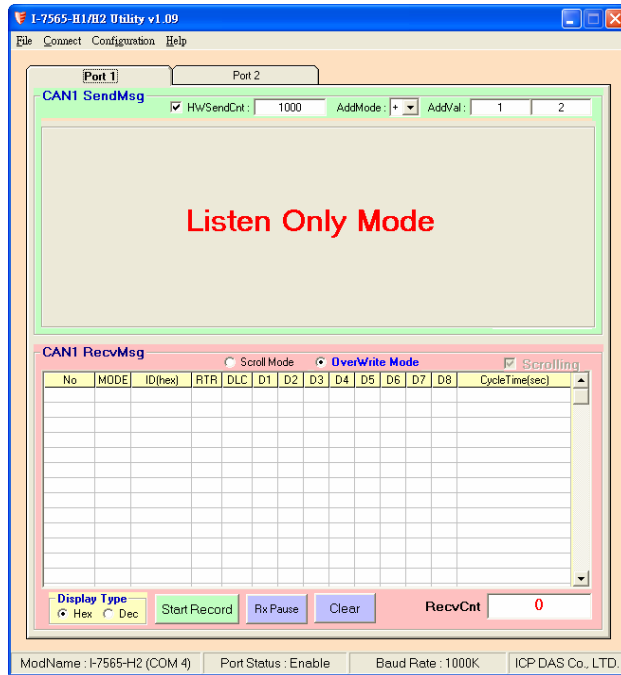

Figure 4-2-1: LOM Screen of I-7565-H1/H2 Utility
1. “Listen Only Mode” (LOM) function is supported by I-7565-H1/H2 Utility v1.09 and FW v1.05 or newer. The LOM screen is like Figure 4-2-1. (In LOM, CAN message sending function is disabled.)